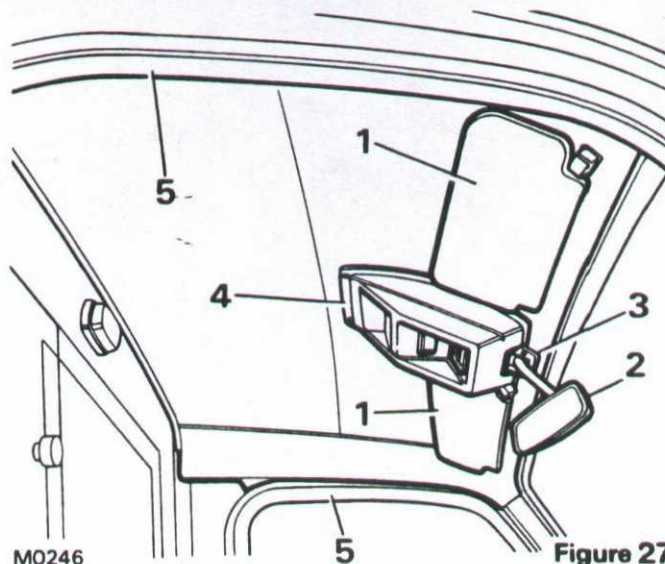

Figure 27
1. Remove retaining screws and detach both sun visors, see Figure 27.